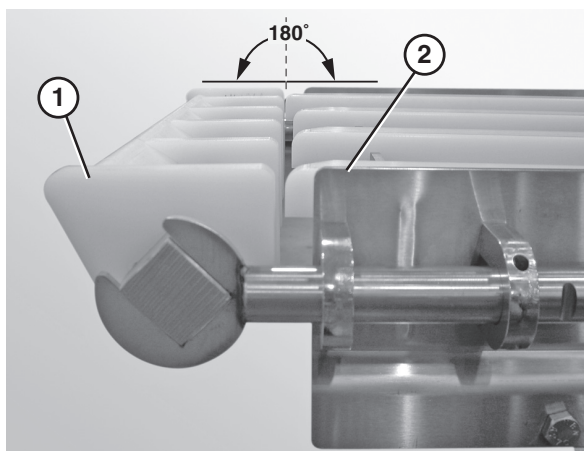

Figure 23
3. Ensure that the nose bar pucks (Figure 23, item 1) are in line with the conveyor frame (Figure 23, item 2).